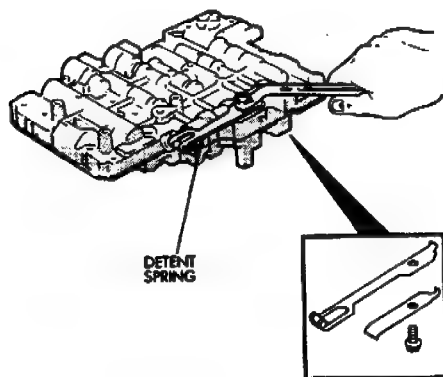

Fig. 3 Removing/Installing Detent Spring
- (1) Remove two-piece detent spring (Fig. 3). Note position of spring sections for assembly reference.